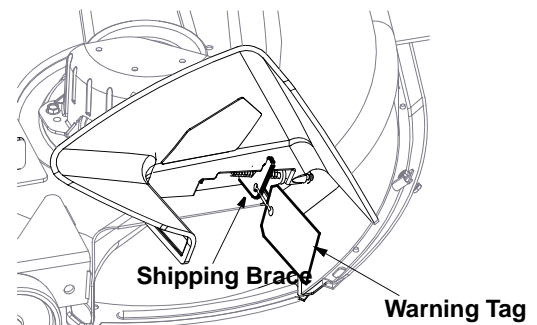

Figure 3
- Pull out the tab found on the seat stop and hold it open while sliding the seat off the seat pivot bracket. See Figure 3.
- Slide seat in until front seat spacer engages the seat stop. See Figure 3.
- Locate the shipping brace and accompanying warning tag on the right side of the mower, between discharge chute and cutting deck. See Figure 3.